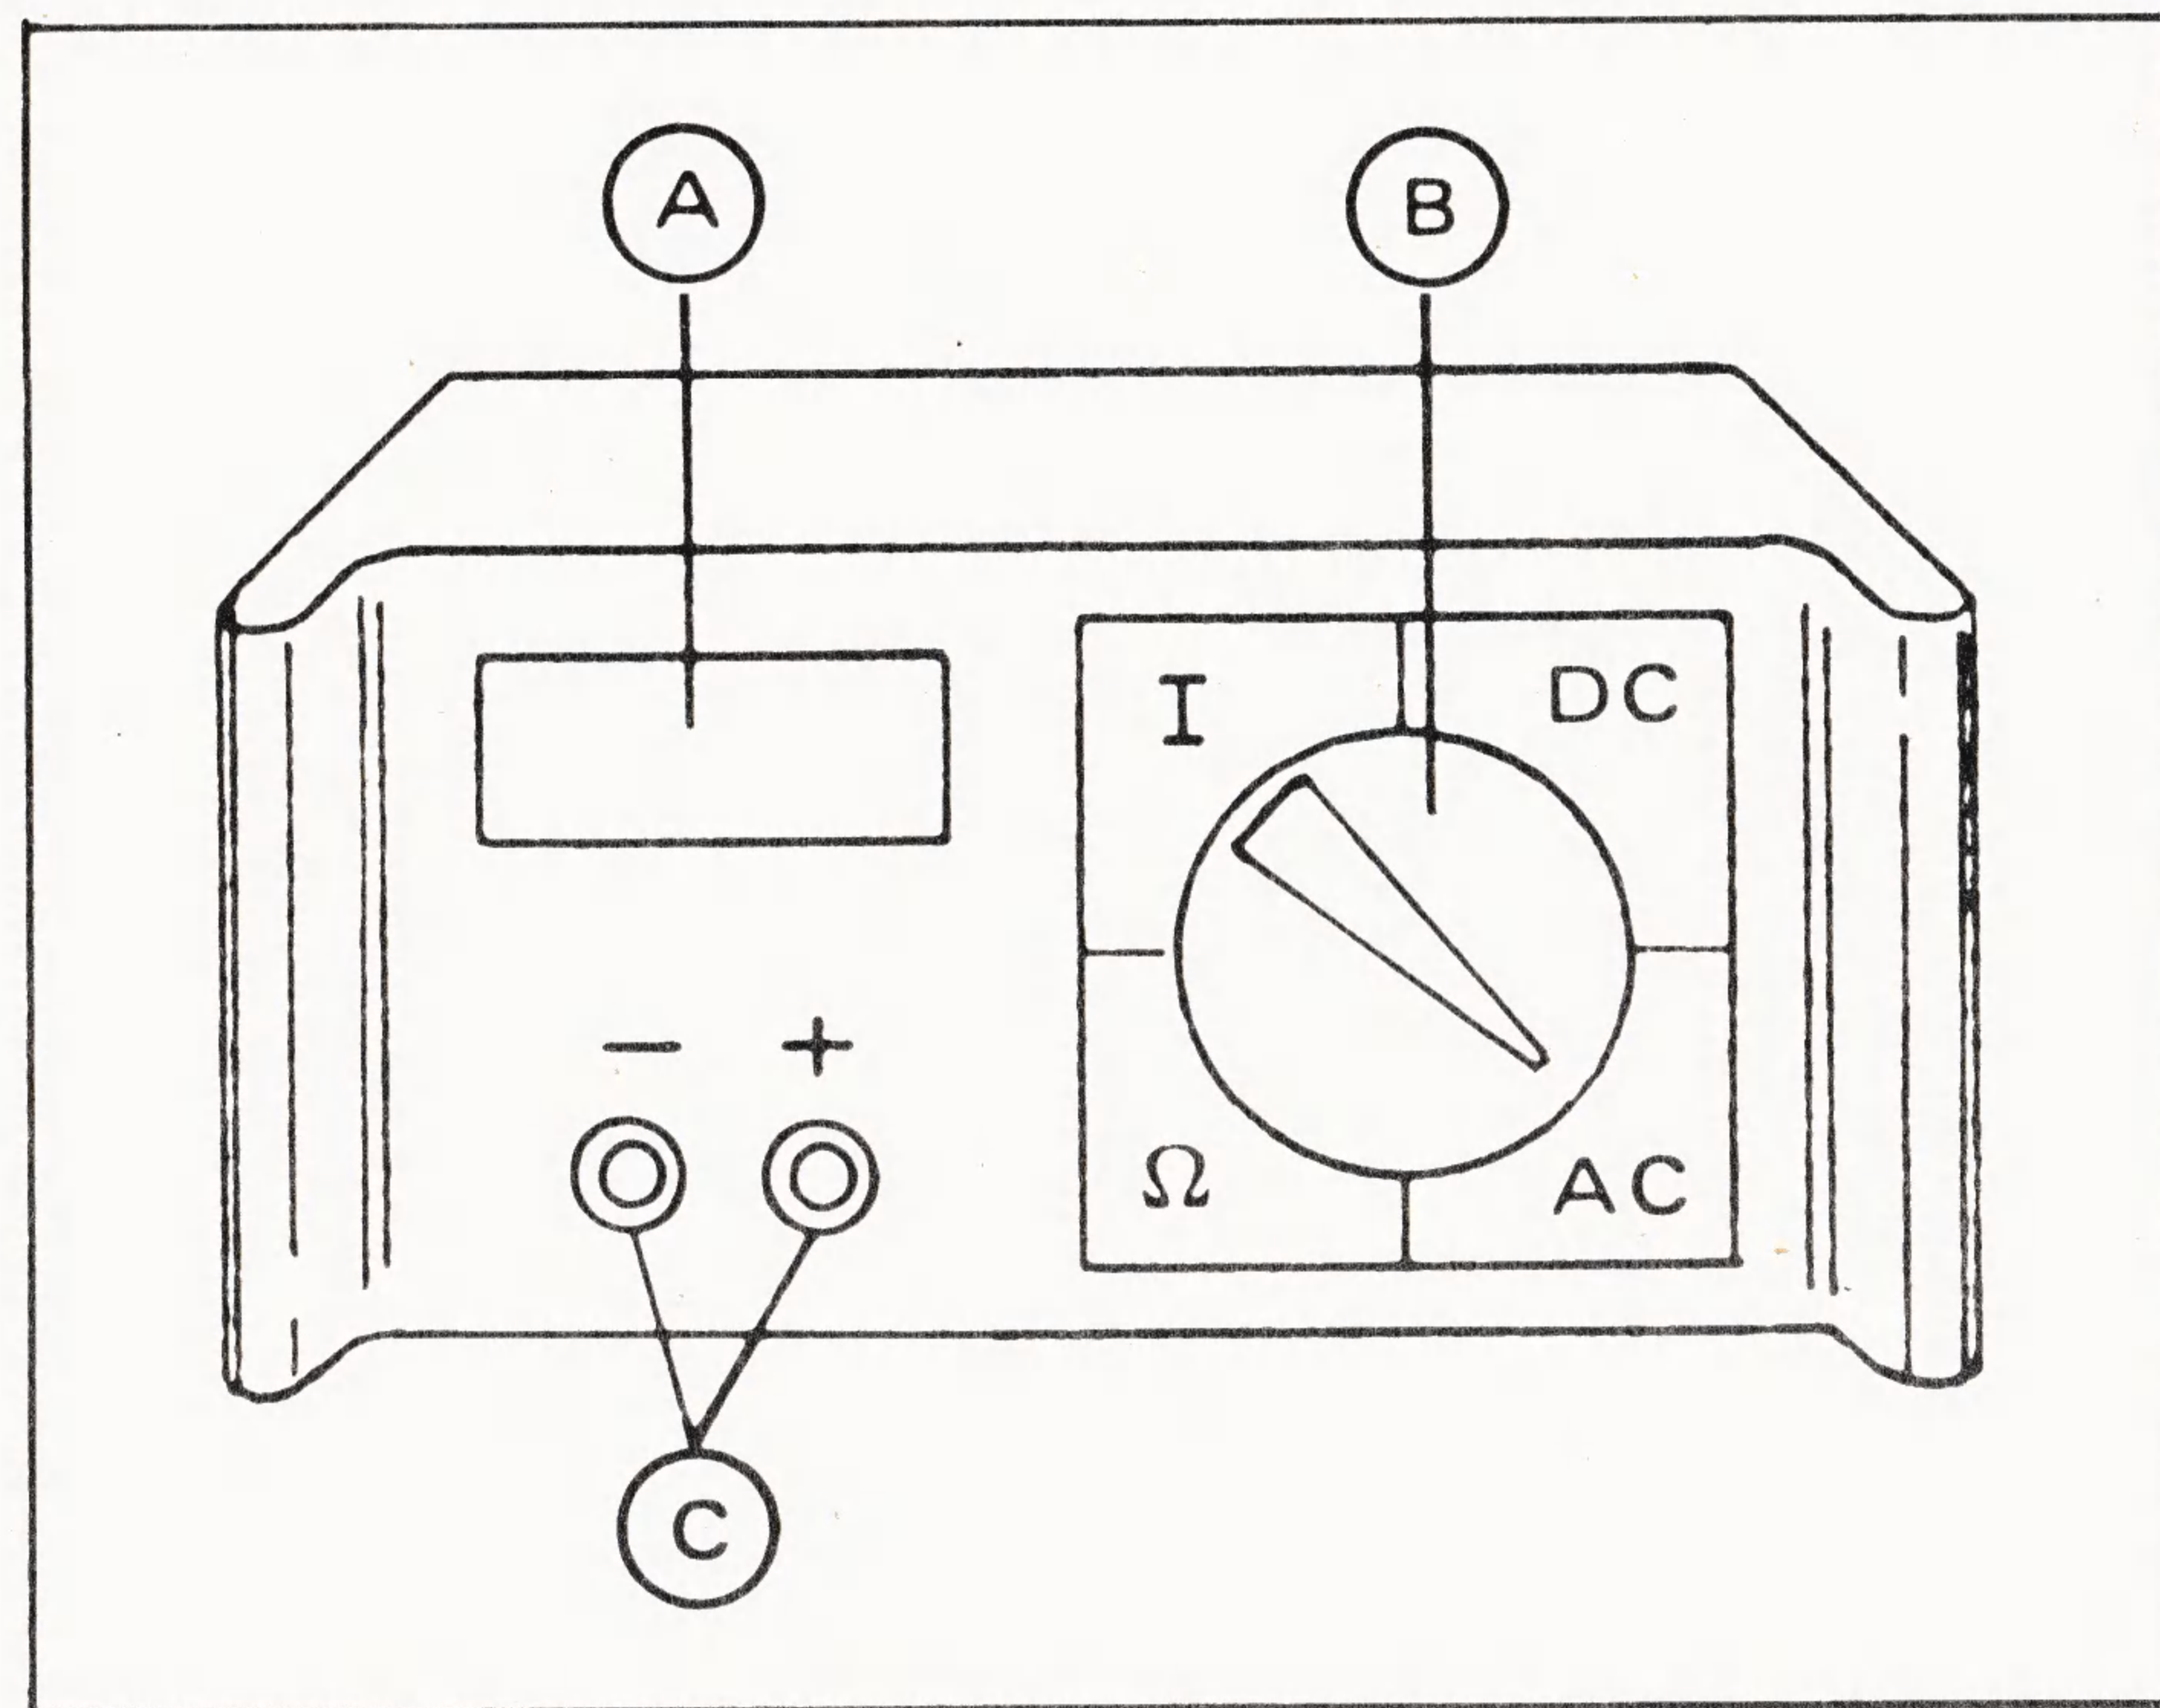

Figure 2.1 - Front Panel
2.4 Front Panel. The front panel of the Danameter is shown in figure 2.1.